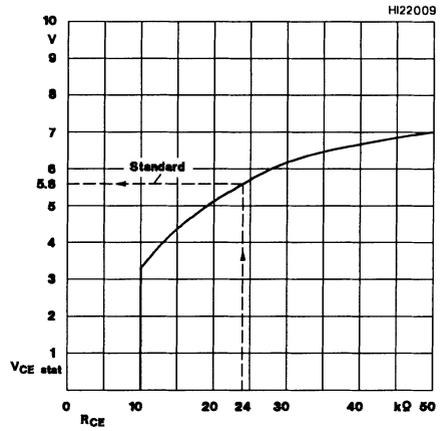

Fig. 9  $V_{CEstat}$  as a function of  $R_{CE}$  ( $k\Omega$ )
1. Choose  $V_{CEstat}$  see Fig. 9
2. Calculate  $R_{CE}$  from equation (1):  $R_{CE} > 10 \text{ k}\Omega$
4. Calculate  $C_{CE}$  from equation (2) and (3).